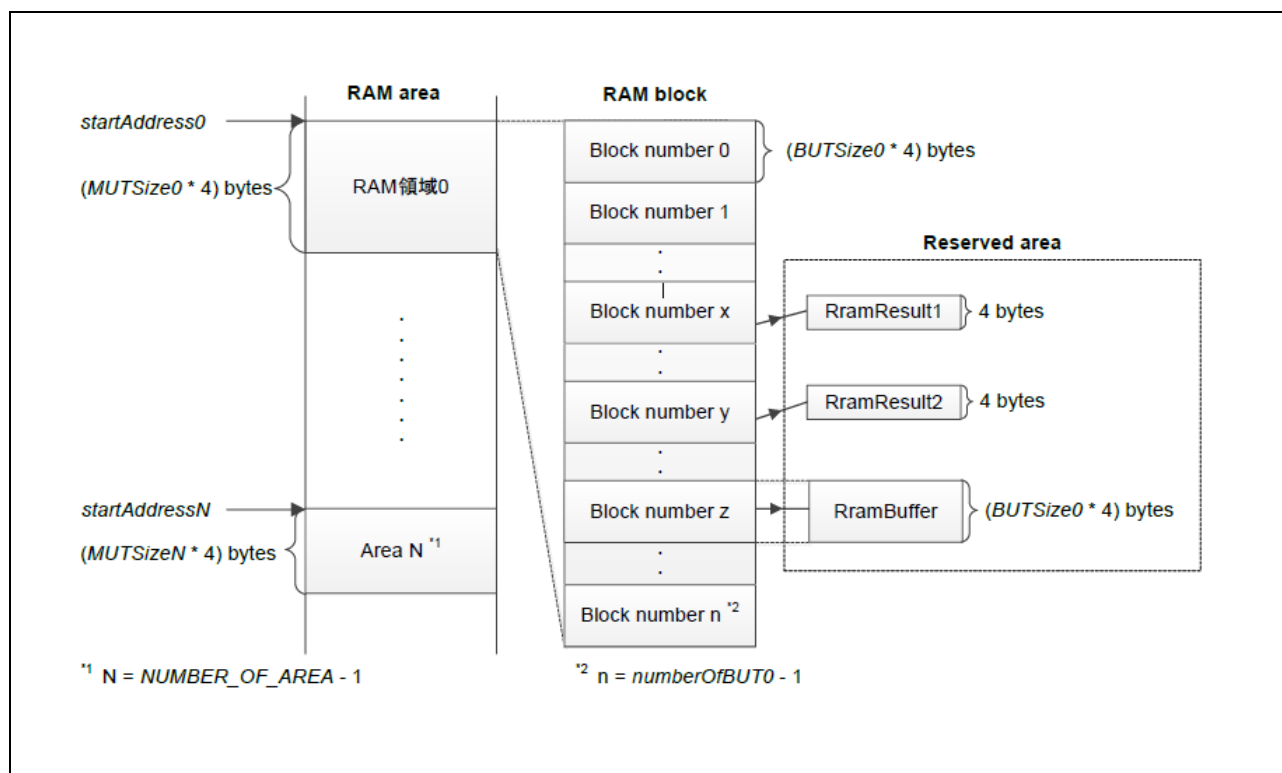

Figure 1-2 RAM Block Configuration (example)
**Figure 1-2** shows how RAM area 0 is divided by n block. Directives are indicated by italics.